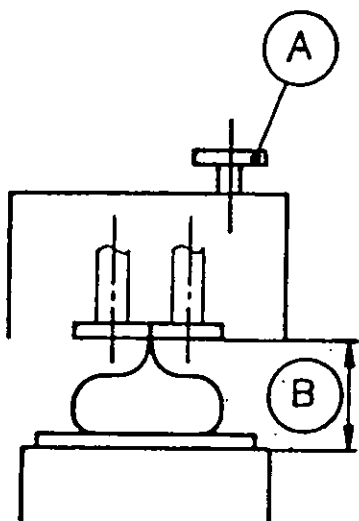

Fig. 5
The height (B) is adjusted by means of the hand wheel (A), which is placed on top of the sealing section, see Fig 5.
- Check the bag length by measuring the distance from **front edge to front edge** of the photo marks, Fig. 5.
- Adjust the bag length by activating the hand wheel, Fig. 5, for shorter/longer bag.